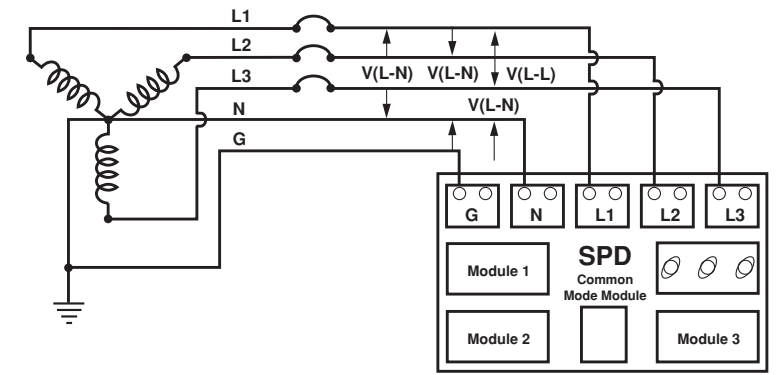

Fig. 3 - Three Phase, 4-Wire with Ground, WYE
**In Fig. 3**, Cat. Nos. 52120-7M3 and 52277-7M3 should only be used for the 3 Phase, 4 wire with Ground, Wye configuration. **DO NOT** use with a Delta configuration.